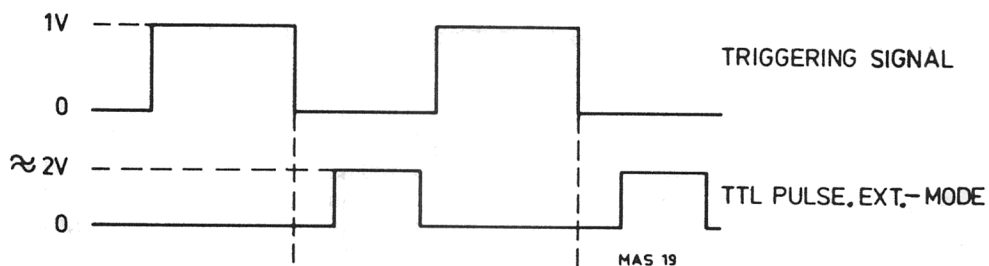

Fig. IX-2 External triggering, EXT — mode.
3.6. Check that oscilloscope displays waveform similar to fig. IX-2.